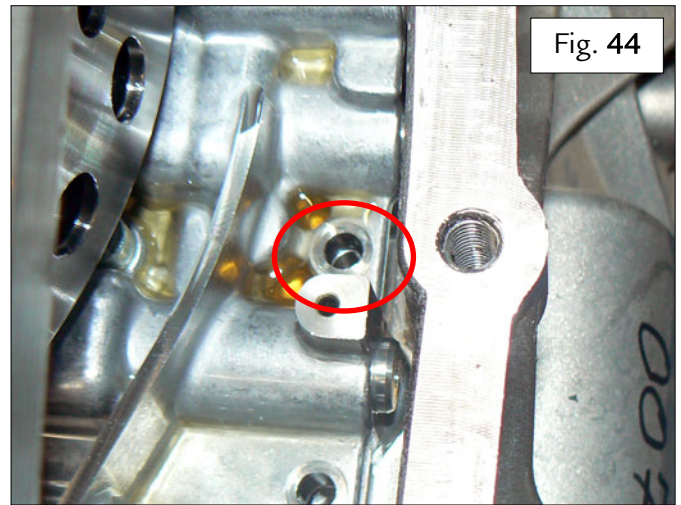

Fig. 44
- Lower the CCP completely, ensuring that the highlighted pin is correctly aligned – Fig. 44.